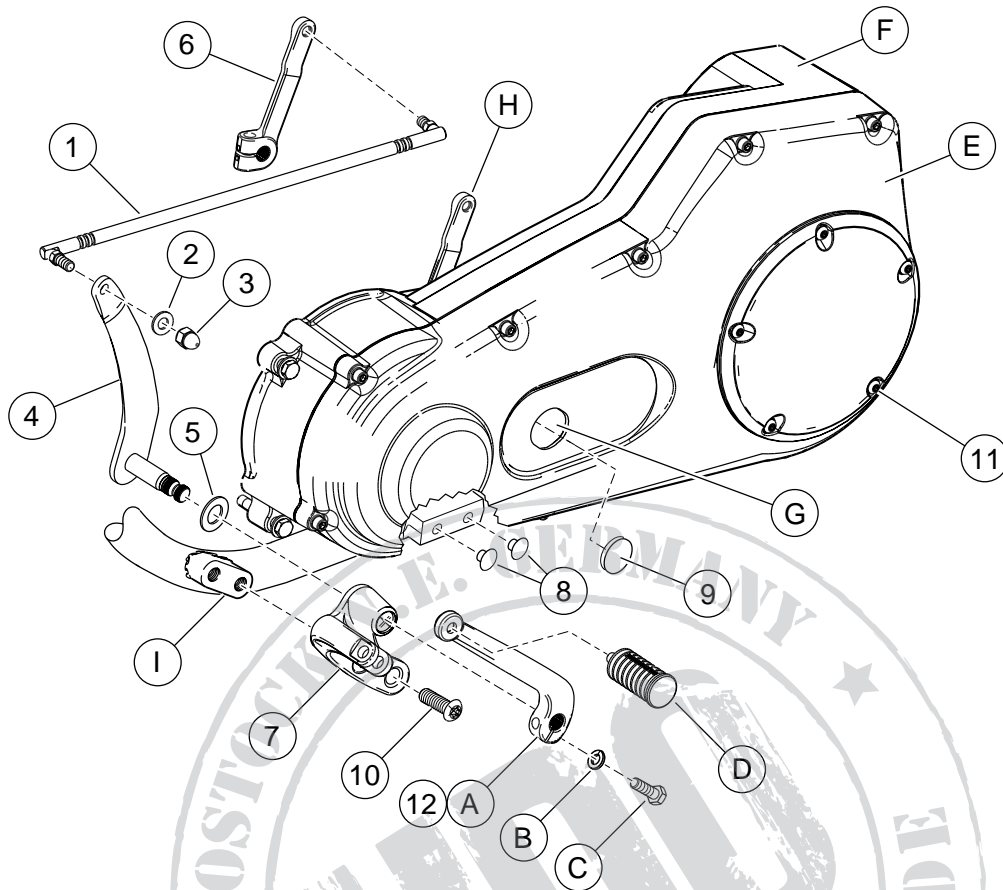
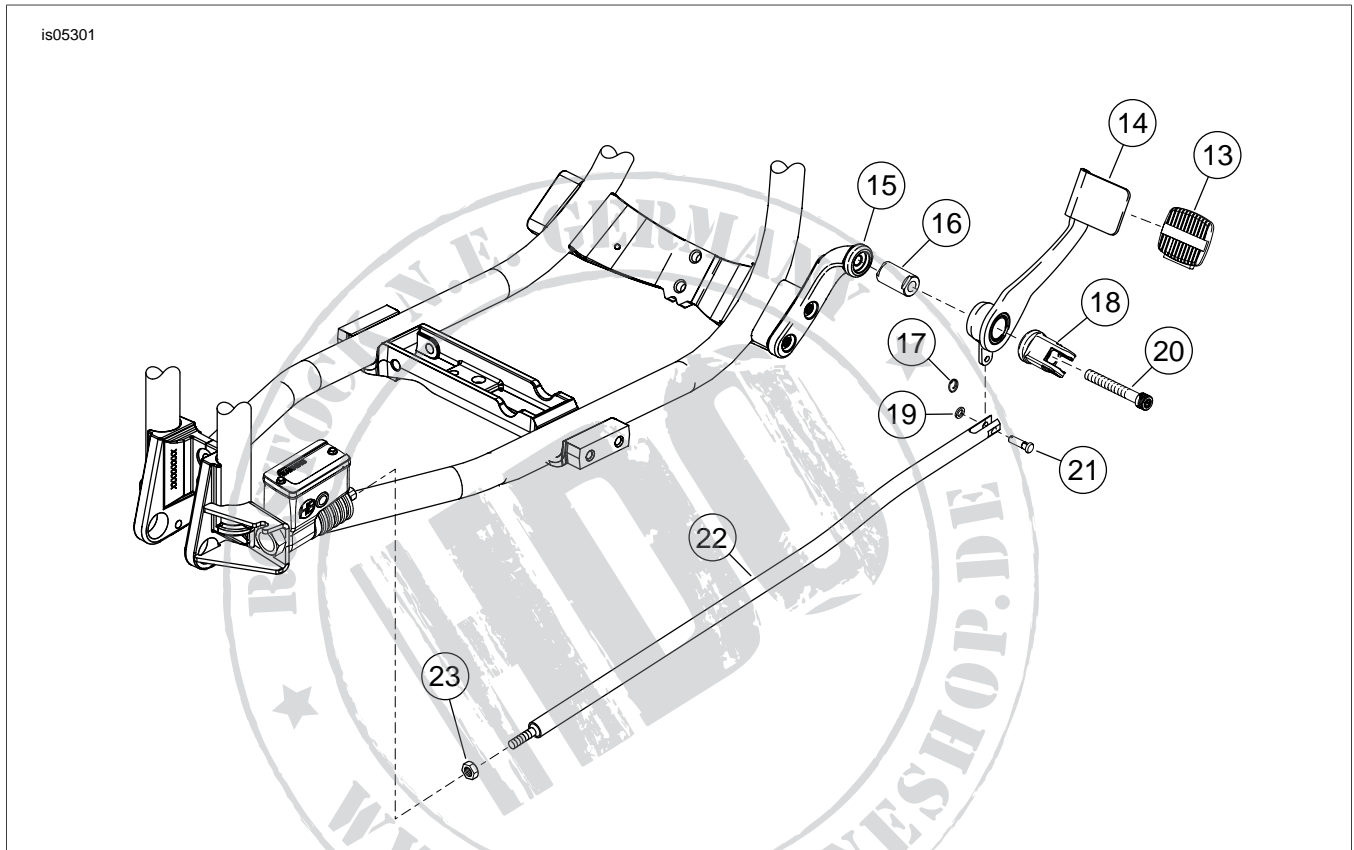

Figure 4. Service Parts: Dyna Forward Foot Control Kit
Figure 5. Service Parts: Dyna Forward Foot Controls Kit
See Figure 4 and Figure 5. The mounting brackets and clevis (7, 18 and 21) may also be purchased separately to upgrade the standard FXDWG to this black kit.
See Figure 4 and Table 1 and Figure 5 and Table 2.
8. See Figure 4. Install a spring washer (5) on the shifter lever shaft (4). Coat the shaft with with a light lubricant and slide the shaft into the new shifter bracket (7). Install the new shifter bracket onto the frame mounting holes using TORX® screws (10). Tighten the screws to 30-35 ft-lbs (41-47 Nm).
9. Install the shifter peg (D) on the new foot shifter lever (12) using Loctite 243 Blue. Torque to 8-12 ft-lb (10.8-16.3 Nm).
10. Install the new foot shifter lever (12) on the shifter shaft (4) protruding from the shifter bracket (7). Tighten the foot shifter lever retaining screw to 18-22 ft-lbs (24.4-29.8 Nm).
11. Using a few drops of Loctite 243, install the new shifter rod (1) onto the transmission shifter lever (6) and shifter lever (4). Tighten acorn nuts to 8-12 ft-lbs (10.8-16.3 Nm).
2. See Figure 5. Loosen the brake rod jam nut (23) at the rear brake master cylinder.